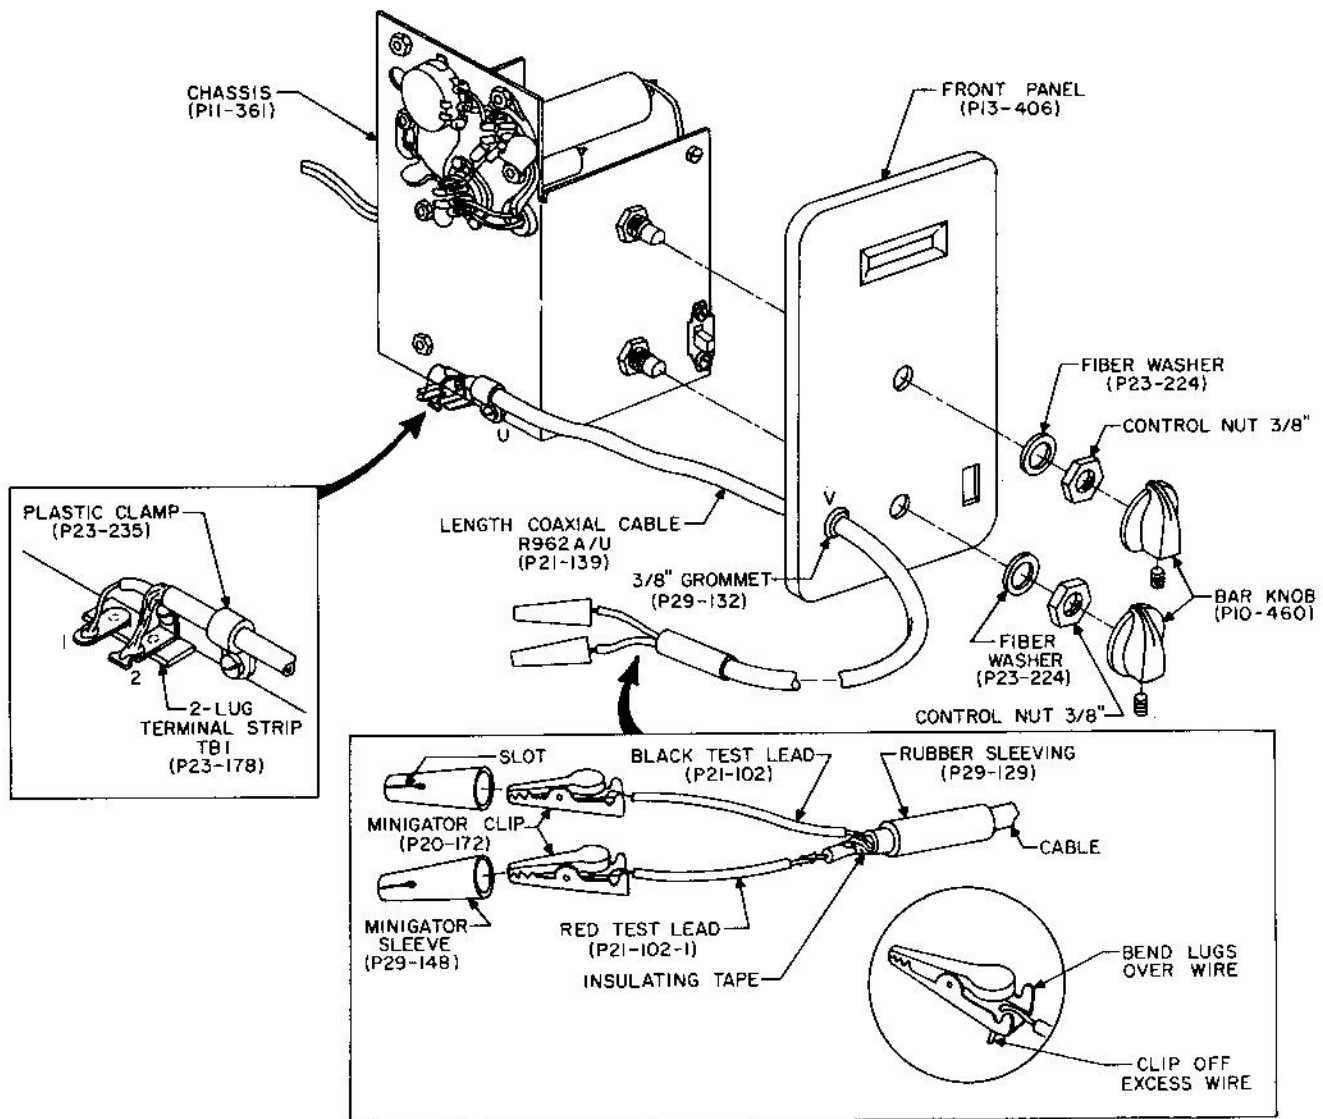

Figure 10. Test Cable Preparation and Front Panel Assembly
- () 38. Refer to figure 10 and install the bar knobs on the rotary switch and dual potentiometer shafts. Note the positioning of the knobs on the flatted shafts. Tighten knob screws with a small screwdriver.